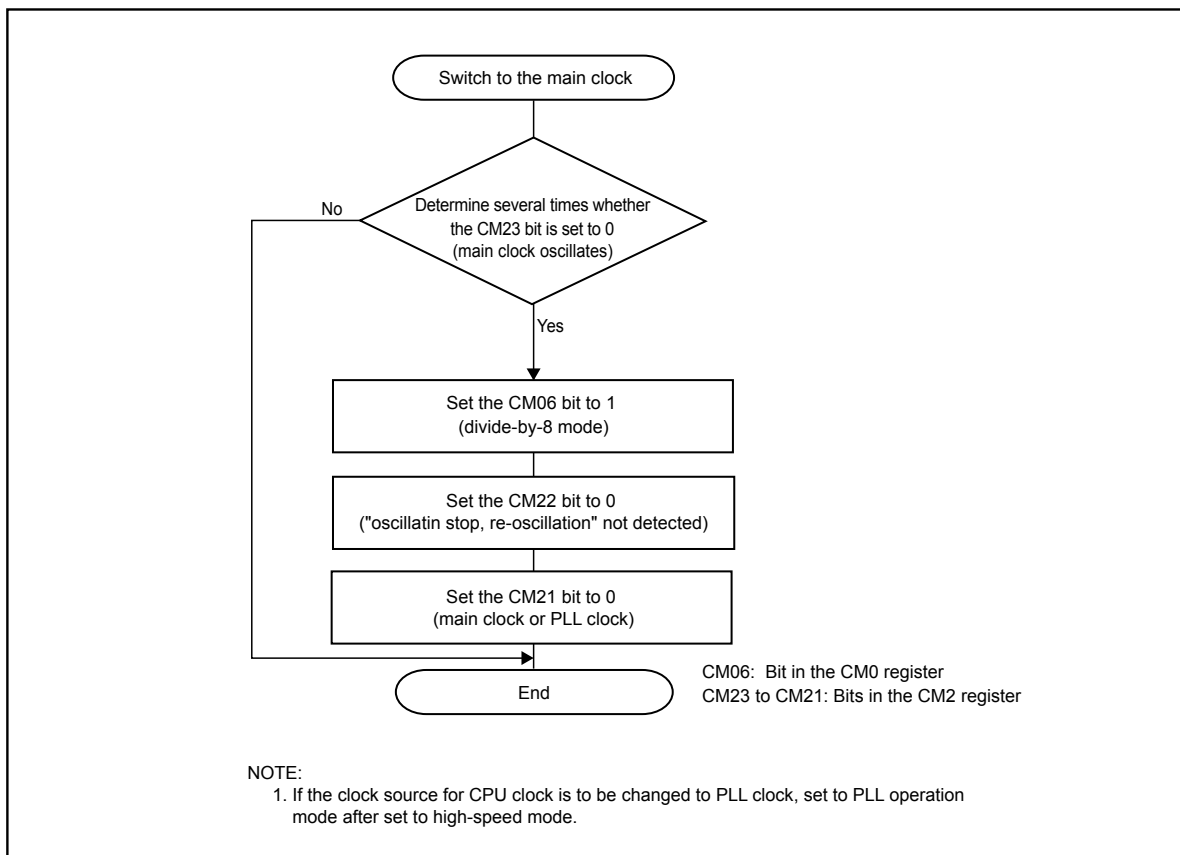

Figure 7.13 Procedure to Switch Clock Source From On-chip Oscillator to Main Clock
- Where the main clock re-oscillated after oscillation stop, return the main clock to the CPU clock and peripheral function clock source by program. **Figure 7.13** shows the procedure for switching the clock source from the on-chip oscillator to the main clock.